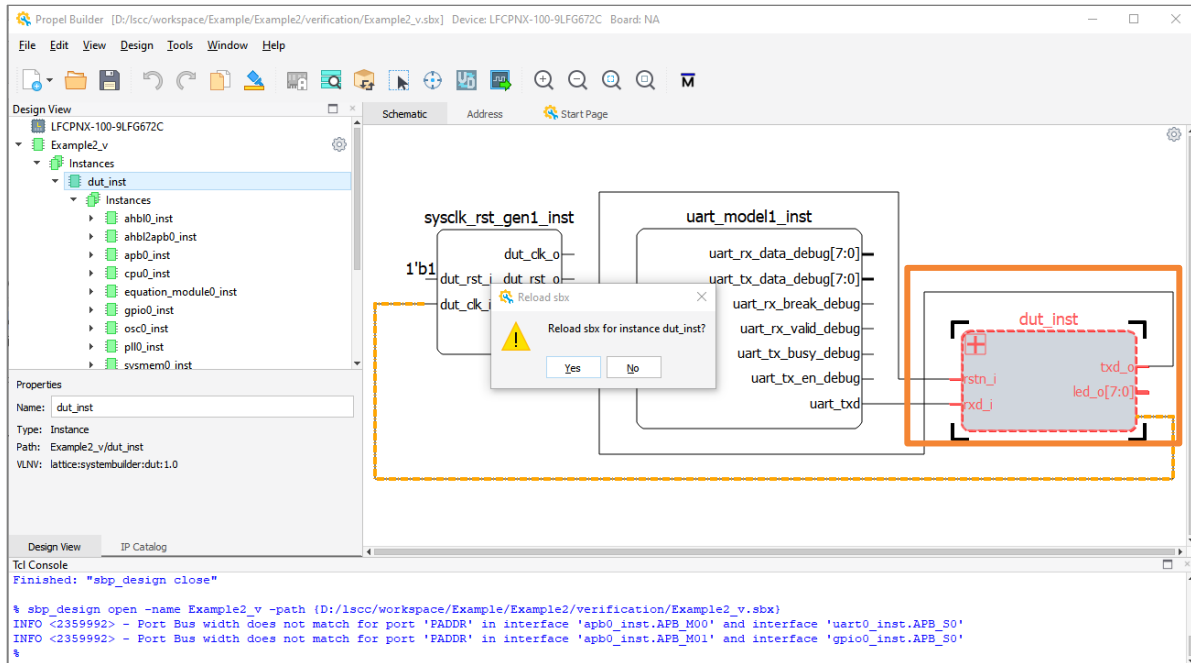

Figure 2.182. Reload dut\_inst after Each SoC Project Design Change
- c. **Reload** `dut_inst` to synchronize the SoC design change to verification project. Double click on `dut_inst` to do the reload (Figure 2.182).